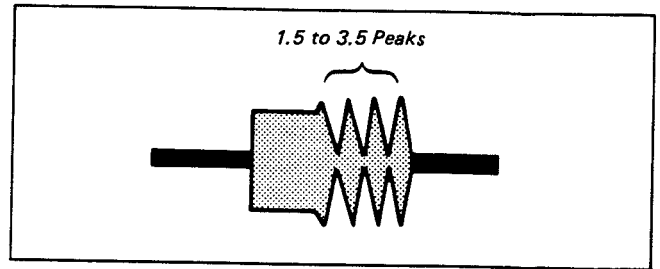

Fig. 4-12
- 2) Check that the RF waveform on the exit side has 1.5 to 3.5 peaks. If not, readjust as follows: (Fig. 4-12)